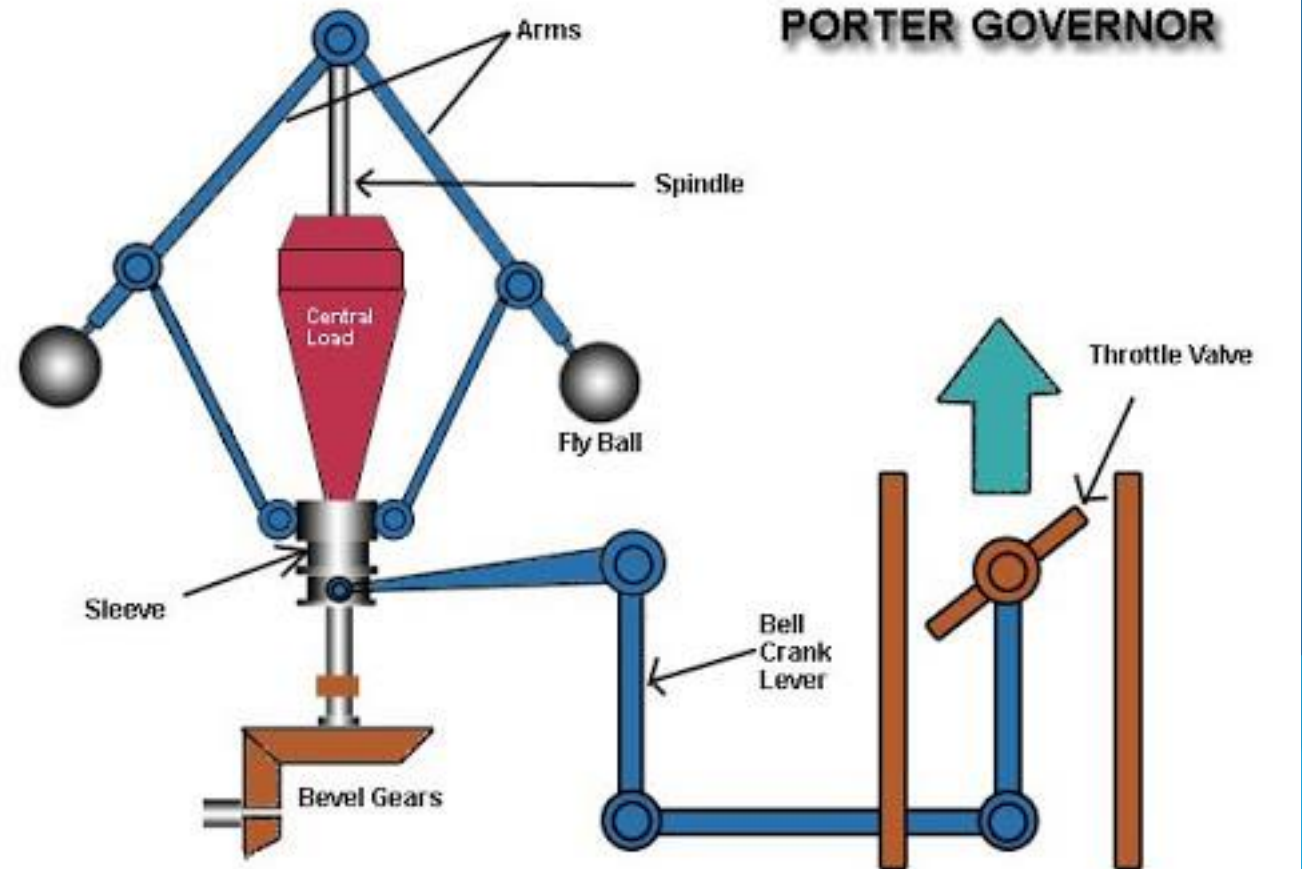

Fig. 1. Porter Governor
- The Porter governor is a modification of a Watt's governor, with **central load attached to the sleeve as shown in Fig. 1.**